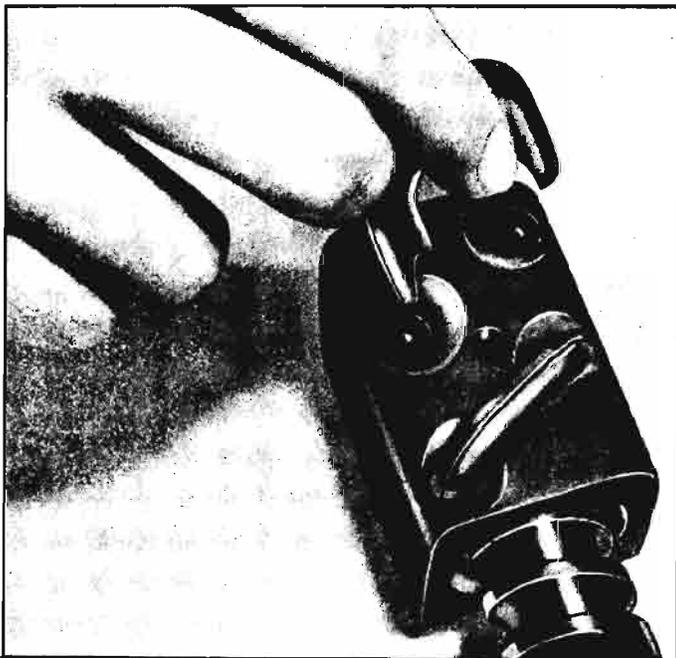

Fig. 4-18—Inserting Ball Guides in Nut
5. Push the guides into the guide holes of the nut (fig. 4-18). If the guides do not push all the way down easily, tap lightly into place.